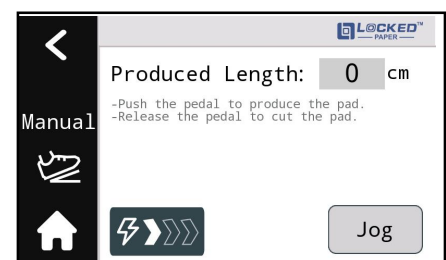

Figure 1
1) Tap in the homepage to enter this mode. (Figure 1).